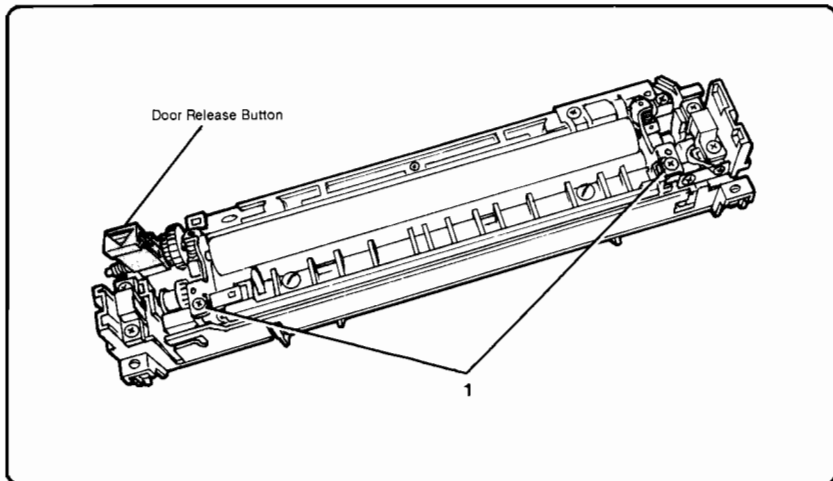

Figure 6-59. Pressure (Lower Fusing) Roller Removal
2. Remove the screws (2) securing the Pressure Roller Lifting Plates (see Figure 6-59, callout 1).
3. Remove the Pressure Roller and brackets (see Figure 6-59).